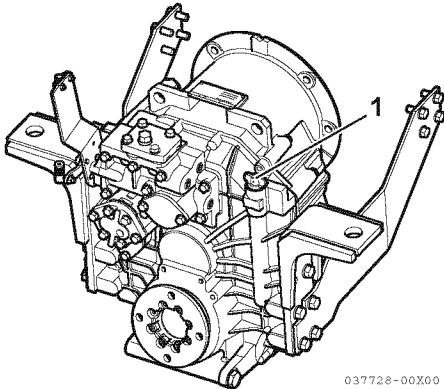

Figure 1
1. Remove dipstick (1, **Figure 1**) and wipe with clean cloth.